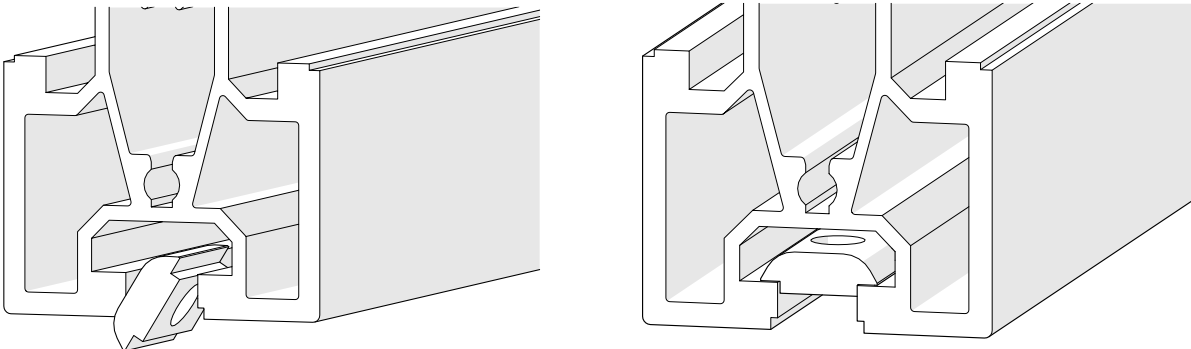

Figure 5: Inserting P-00223 Into Extrusion
Step 3: Align LLLU into position, lining up P-00223 with the spacers and mounting holes in the mounting plate as shown in Figure 5.